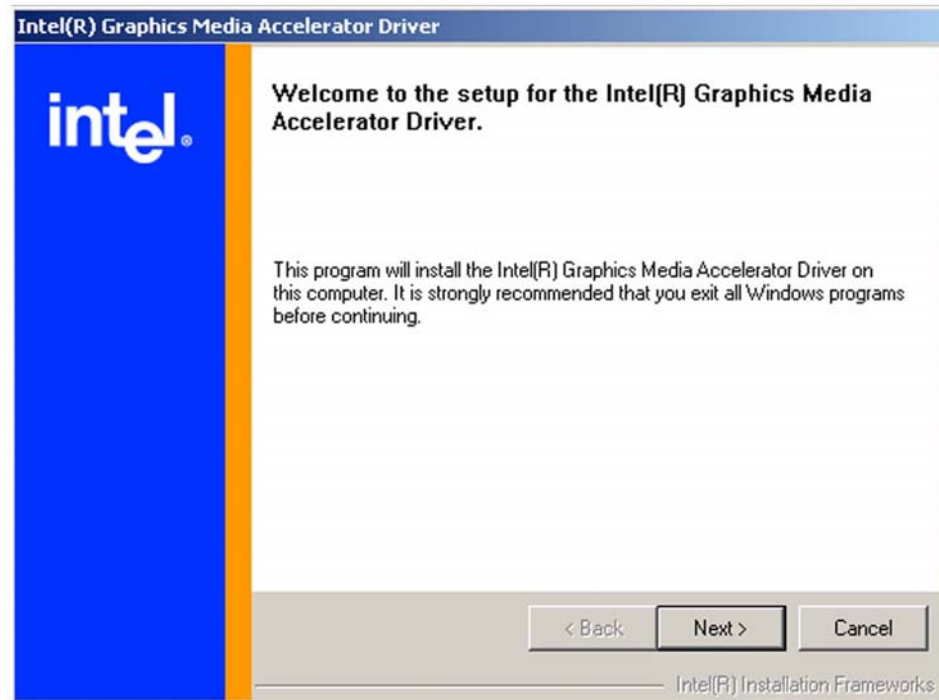

Figure 6-8: GMA Driver Installation Welcome Screen
Step 4: After the files are extracted the welcome screen shown in **Figure 6-8** appears. To continue the installation process, click the “**NEXT**” button. The license agreement